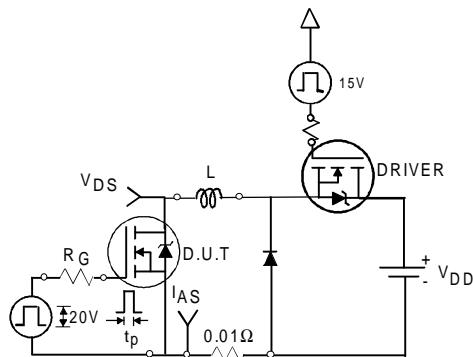

Fig 12a. Unclamped Inductive Test Circuit
3. Equation below based on circuit and waveforms shown in Figures 12a, 12b.
- ③ $I_{SD} \leq 101\text{A}$, $\text{di}/\text{dt} \leq 210\text{A}/\mu\text{s}$, $V_{DD} \leq V_{(BR)DSS}$, $T_J \leq 175^\circ\text{C}$
- ④ Pulse width $\leq 400\mu\text{s}$; duty cycle $\leq 2\%$.
- ⑤ $C_{oss\ eff.}$ is a fixed capacitance that gives the same charging time as C_{oss} while V_{DS} is rising from 0 to 80% V_{DSS} .
- ⑥ Calculated continuous current based on maximum allowable junction temperature. Package limitation current is 75A.
- ⑦ Limited by T_{Jmax} , see Fig.12a, 12b, 15, 16 for typical repetitive avalanche performance.
- ⑧ This is applied to D²Pak, when mounted on 1" square PCB (FR-4 or G-10 Material).